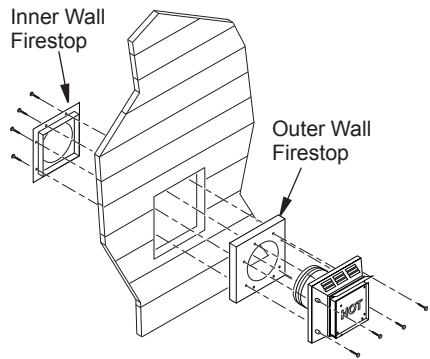

Figure 13 - Installing Outer Wall Firestop (Combustible Exterior Wall)
- 7. Combustible Exterior Wall Only:** Fit the outer and inner wall firestop into wall before connecting horizontal run to vent cap (see Figure 13).